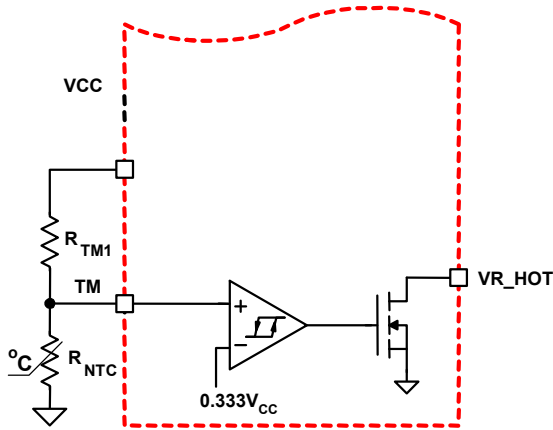
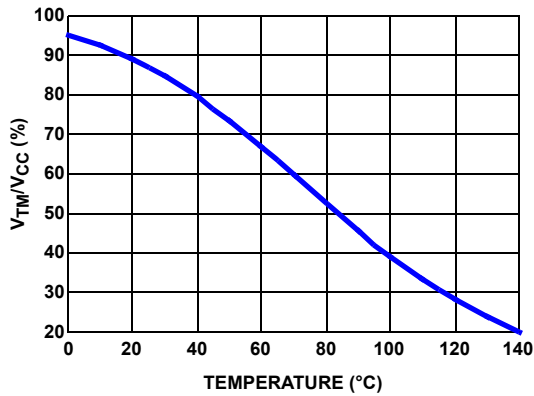

FIGURE 14. BLOCK DIAGRAM OF THERMAL MONITORING FUNCTION
FIGURE 15. THE RATIO OF TM VOLTAGE TO NTC TEMPERATURE WITH RECOMMENDED PARTS
The diagram of the thermal monitoring function block is shown in Figure 14. One NTC resistor should be placed close to the power stage of the voltage regulator to sense the operational temperature, and one pull-up resistor is needed to form the voltage divider for the TM pin. The NTC thermistor should be placed next to the current sense element of a phase that will remain active when $\text{PSI}\#$ is asserted low. As the temperature of the power stage increases, the resistance of the NTC will reduce, resulting in the reduced voltage at the TM pin. Figure 15 shows the TM voltage over temperature for a typical design with a recommended $6.8\text{k}\Omega$ NTC (P/N: NTHS0805N02N6801 from Vishay) and $1\text{k}\Omega$ resistor R_{TM1} . We recommend using these resistors for accurate temperature compensation.
Based on the V_{CC} voltage, ISL6336B converts the TM pin voltage to a 6-bit digital signal for temperature compensation. With the non-linear A/D converter of ISL6336B, the TM digital signal is linearly proportional to the NTC temperature. For accurate temperature compensation, the ratio of the TM voltage to the NTC temperature of the practical design should be similar to that in Figure 15.
1. Properly choose the voltage divider for TM pin to match the TM voltage vs temperature curve with the recommended curve in Figure 15.